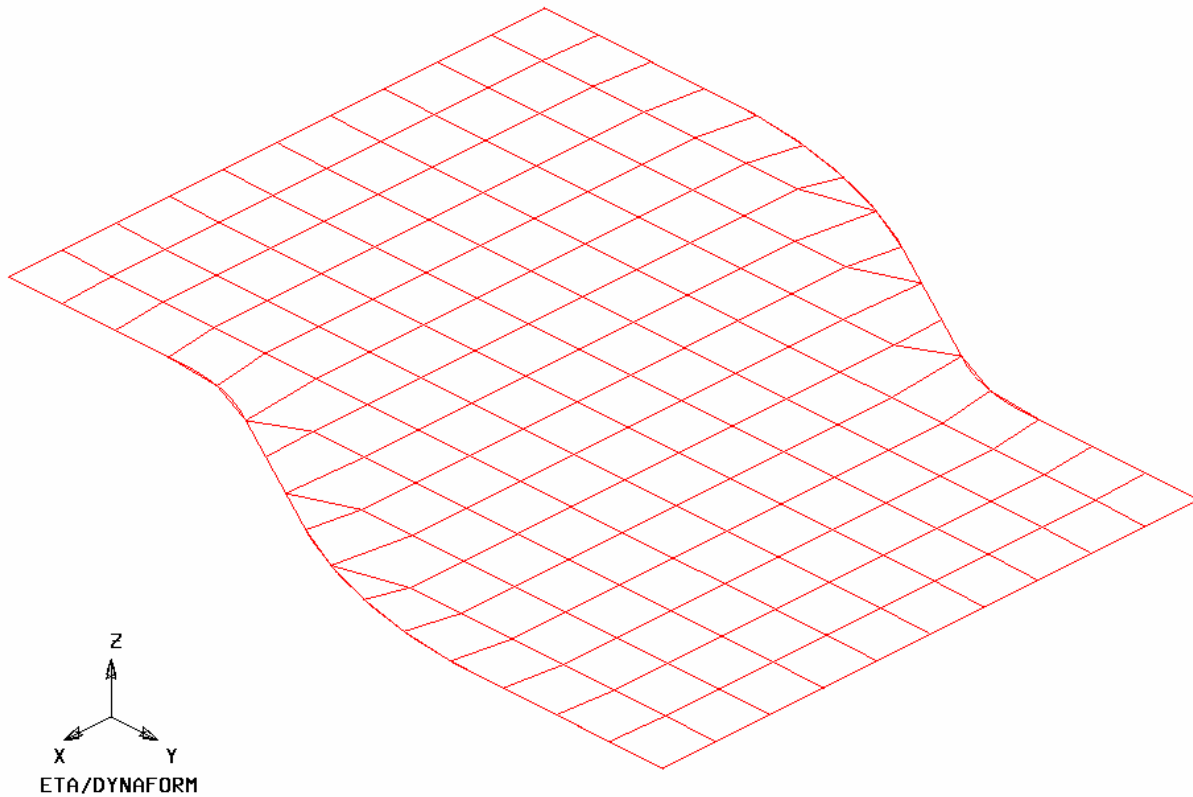

Figure 25: Blank mesh
7. Compare your mesh with the picture shown in Figure 25.